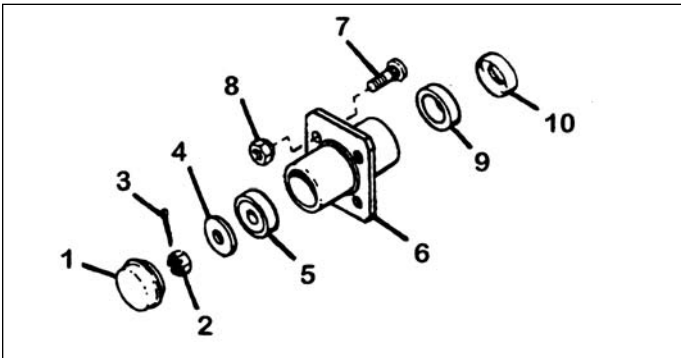

Figure 6 - Front Wheel Hub
1. Install new bearings into wheel hub. See Figure 6.
Note: Install bearing with larger inside diameter (Figure 6, #9) to inside of wheel hub. Bearing with smaller inside diameter (Figure 6, #5), to outside of wheel of hub.
3. Apply grease to lip of seal (Figure 6, #10), and insert onto hub.
4. Install nut (Figure 6, #2) and washer (Figure 6, #4), torque nut gently. Spin hub to check for free rotation. If hub does not rotate freely, check that bearings are seated completely in wheel hub.
5. Align slots in nut to cotter pin hole in steering arm, install new cotter pin (Figure 6, #3).
6. Install grease cap (Figure 6, #1).